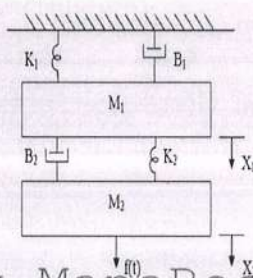

Figure 2
b) Obtain the transfer function $X_1(s)/F(s)$ for the mechanical system shown figure 2. [5+5]